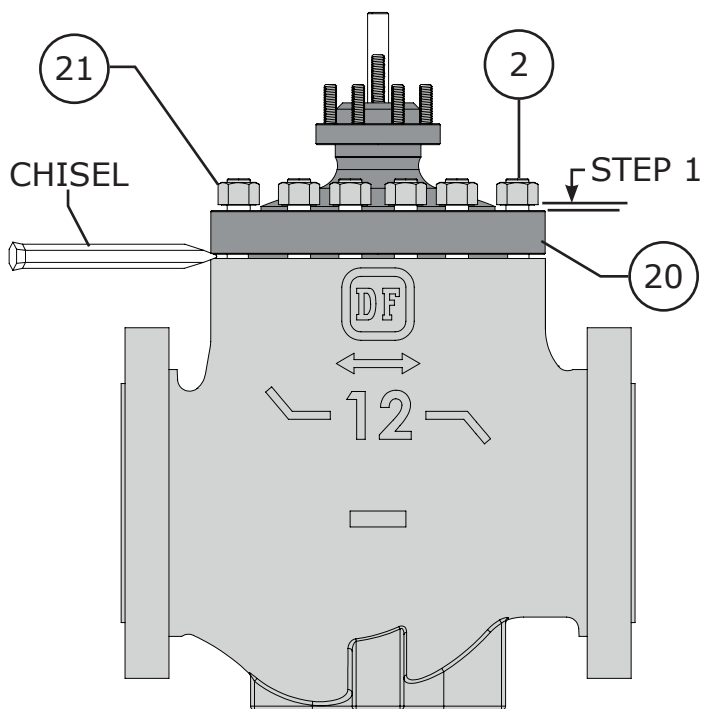

Figure 6 Bonnet Removal (Steps 1 - 2)
- 1 Loosen the bonnet nuts (Key 21) 1 full turn after the contact between the nuts and the top surface of the bonnet (Key 20) has been broken. Do not remove the bonnet nuts until any trapped process pressure has been vented. See Figure 6.